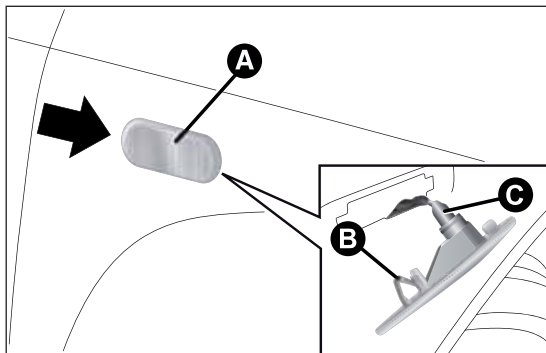

fig. 129
- ☐ adjust the lens A fig. 129 to compress in the internal catch B, then pull the unit outwards;